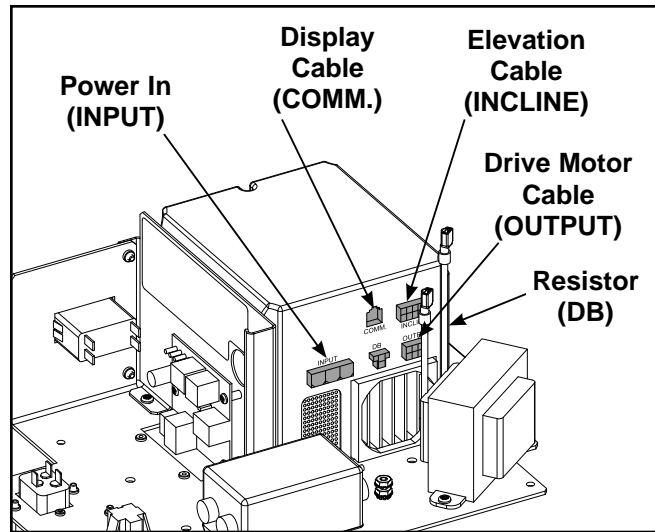

Figure 18
- A. Disconnect the cables from the motor controller. This includes: the power in (INPUT); display cable (COMM.); elevation cable (INCLINE); drive motor cable (OUTPUT) and resistor (DB). See Figure 18.
A. Connect the cables to the motor controller. This includes: the power in (INPUT); display cable (COMM.); elevation cable (INCLINE); drive motor cable (OUTPUT) and resistor (DB). See Figure 18.